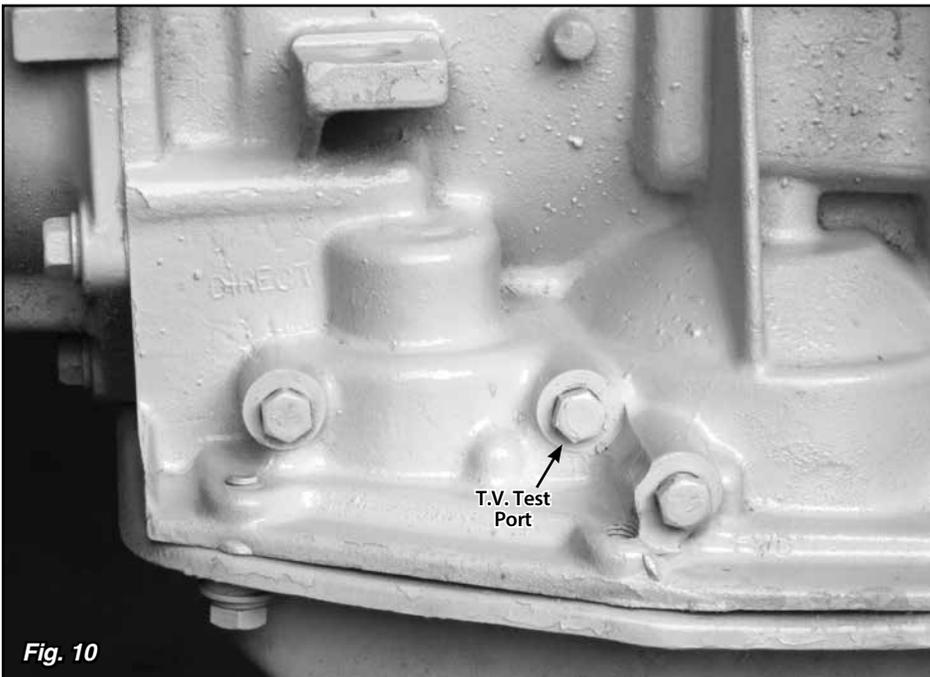

Fig. 10
- Step 10:** On the right hand side of the transmission near the tail housing, you will find three test ports. The T.V. test port is the one in the middle. **Fig. 10** Remove the block off plug from the T.V. test port, and connect an oil pressure gauge with hose (not included) using a 1/8" NPT fitting. The oil pressure gauge needs to be capable of handling at least 60 PSI and be marked with individual PSI readings all the way down to zero.